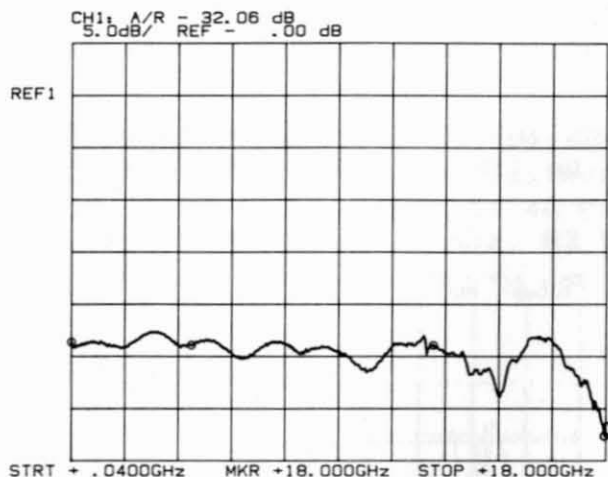

Figure 4-6. DUT Return Loss .04 to 18 GHz
- Connect the DUT to the **TEST PORT**, and press **[SCALE] [5] [DB]** on the HP 8756A. The display should be similar to Figure 4-6.